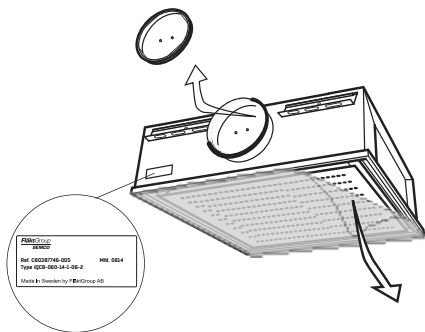

FIGURE 18
- 1) Before connecting the LYRA II IQCC to a duct system, make sure to remove the dust cap and the protective film covering the front panel. (See **FIGURE 18**)